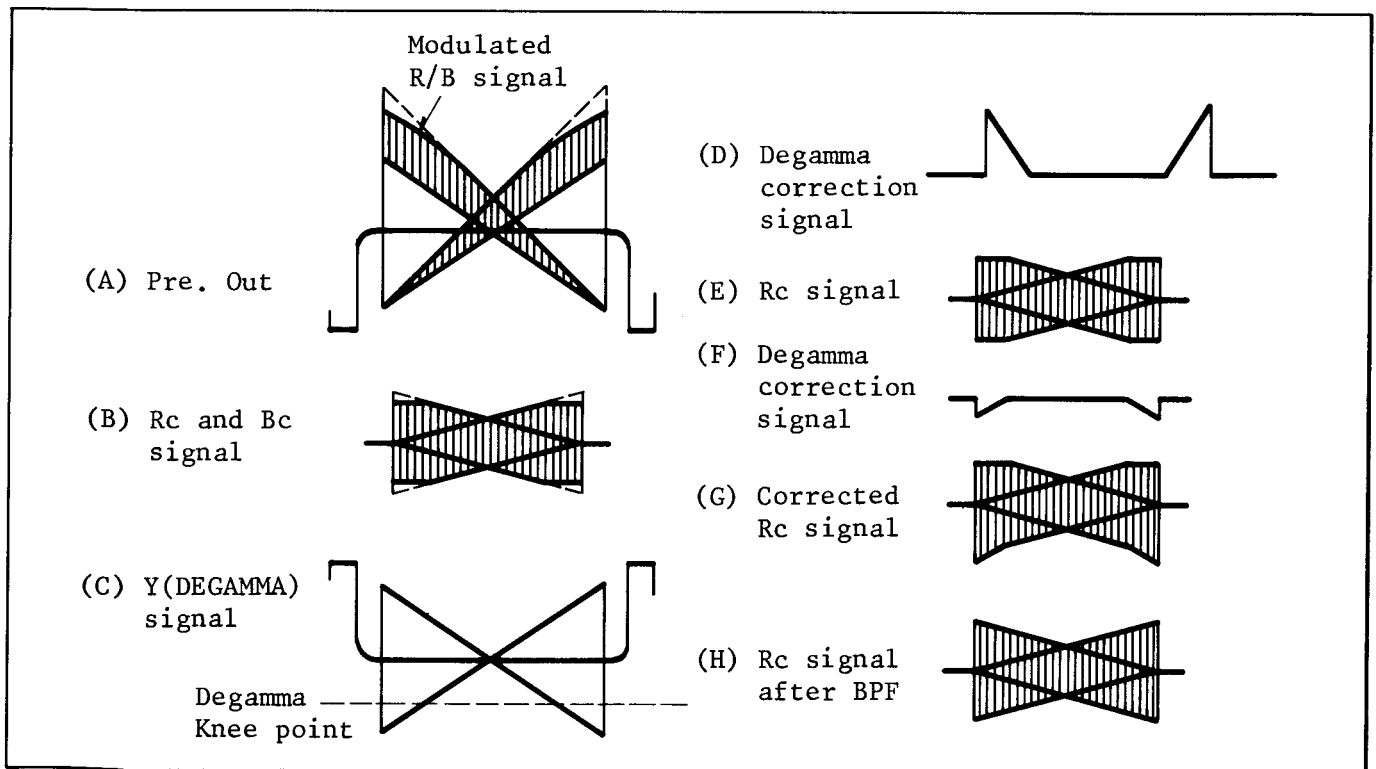

Fig. 22. Degamma Correction Signal
Since the pick-up tube in this color camera produces 3.58MHz modulated red (R) and blue (B) signals mixed with a green (G) signal (see Fig. 22 (A)), the higher levels of the modulated R and B signals obtained by separating the mixed signals are also compressed (B). The de-gamma correction signal circuit generates a de-gamma correction signal (D) to compensate for the compression of the higher levels of the R and B signals. This correction signal will be applied to both the Rc and Bc circuits as needed.